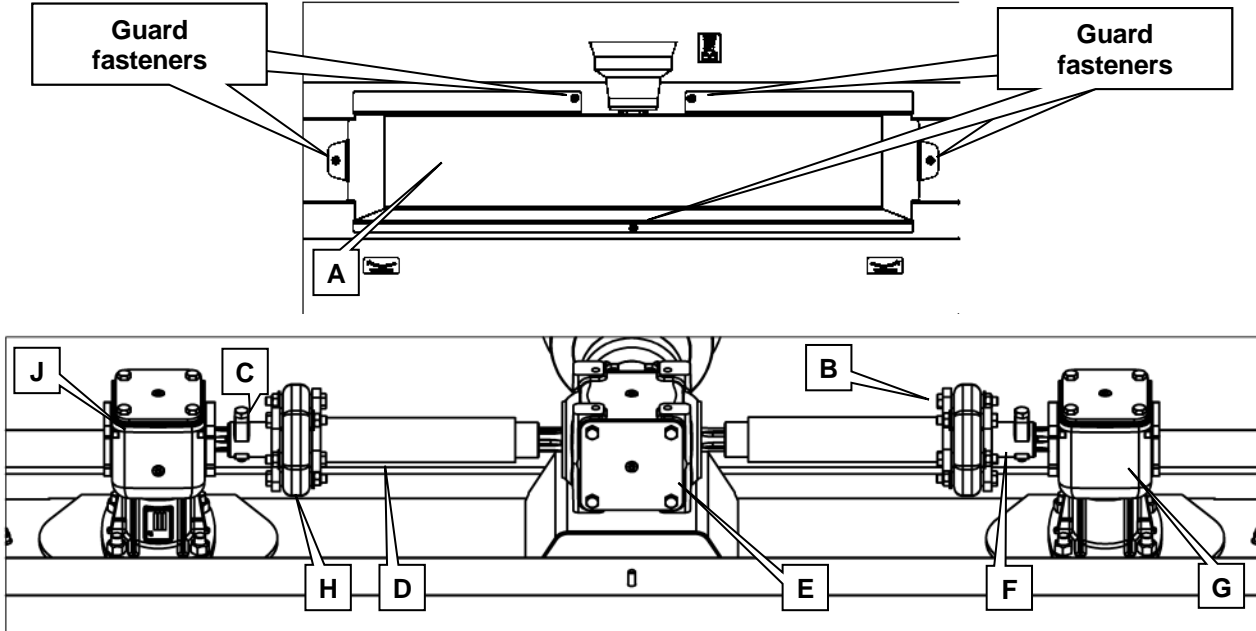

Figure 8.4
- 8.5.4.1 Remove the drive guard by removing the guard fasteners, see Figure 8.4 (A).
- 8.5.4.2 Remove the six flexible coupling mounting bolts, see Figure 8.4 (B).
- 8.5.4.3 Loosen the relevant short driveshaft clamping bolt, see Figure 8.4 (C).
- 8.5.4.4 Slide the long driveshaft, see Figure 8.4 (D) towards the central gearbox (E).
- 8.5.4.5 Slide the short driveshaft, see Figure 8.4 (F) towards the relevant outer gearbox (G/J).
- 8.5.4.6 Remove the flexible coupling, see Figure 8.4 (H) and both drive shafts and store them safely.